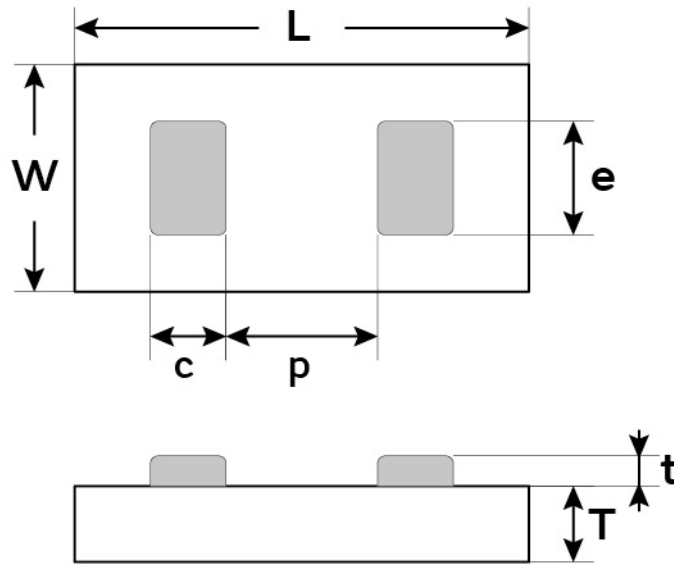

Figure 7 - Package outline drawing
- (1) Other Film Frame Carrier are possible on request
- (2) Al = Min 3µm Aluminium
- (3) Refer to Figure 7